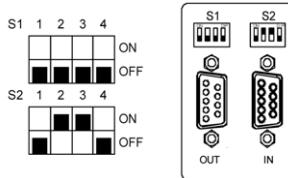

Fig. 3: Multi Link Port settings
- Straight serial DB9F-DB9M cable (p/n SK02) for newer models of the Midas autosampler (with the Multi Link Ports, see **Fig. 3** on pg. **4**.). Older models require the serial cross DB9F-DB25M cable (p/n SK03).